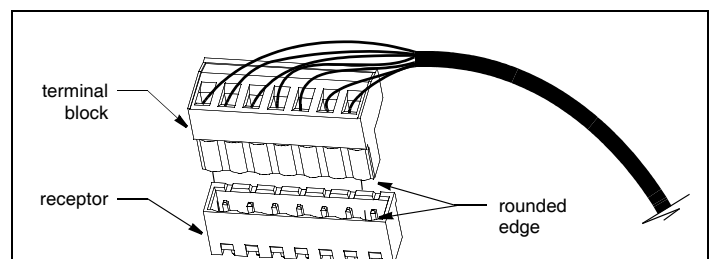

Figure 5. Wiring & joining terminal block to receptor on PC board
1. Begin by wiring the single echosounder/transducer. Select a seven-terminal block. Be sure to orient it correctly as it fits on the receptor one way only (Figure 5). Follow the color code on the printed circuit board labeled Common (J1). Insert the stripped